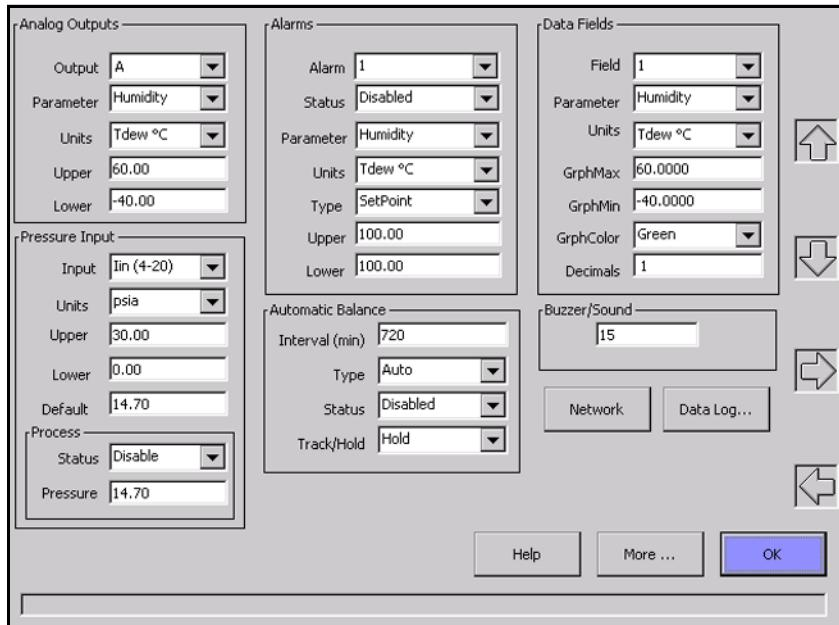

Figure 30: Menu 1
**Menu 1** is shown in *Figure 30* below. This menu is accessed by selecting the **Menu** control button on the main screen and pressing **ENTER**.